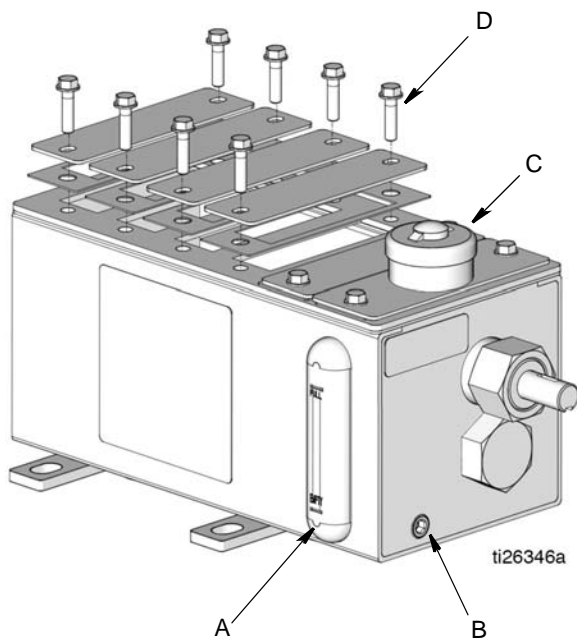

FIG. 1
The reference letters used in the following instructions, refer to FIG. 1.
- a. Drain reservoir by removing drain plug (B) (FIG. 1). Dispose of oil according to all applicable safety regulations.
- d. Replace pumping units. Torque mounting bolts (D) (FIG. 1) to 110 in. lbs \pm 10 in. lbs. (12.43 N.m \pm 1.13 N.m).
- e. Apply thread sealant (user supplied) to drain plug (B) (FIG. 1) and replace. Torque to 35 in. lbs \pm 5 in. lbs. (3.95 N.m \pm 0.6 N.m).